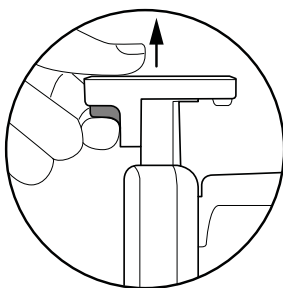

Figure 2
3. Press the Arm Release Button to lift the Arm Lock on the NutriSeal™ Vacuum Arm (Figure 2).